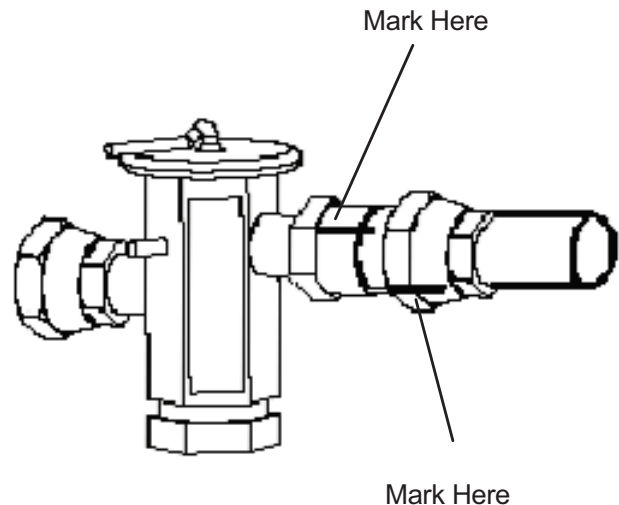

Figure 1
6. **See figure 1.** Place a mark on one corner of the union nut and the thread assembly on the